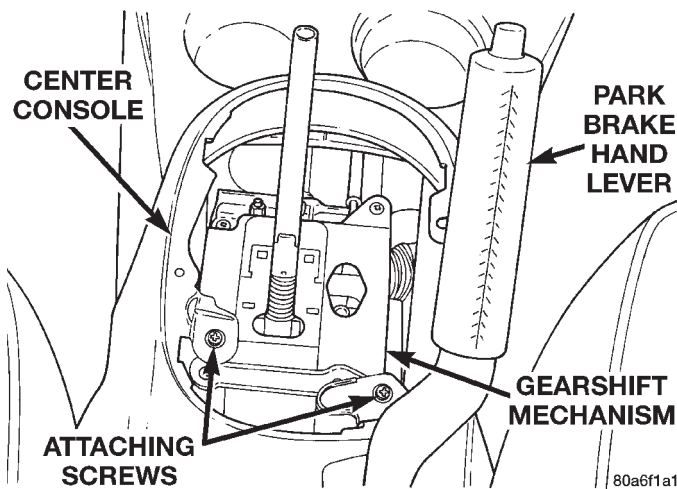
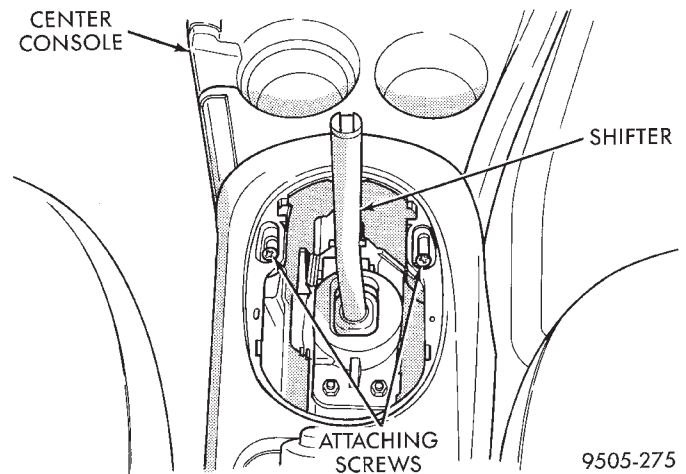
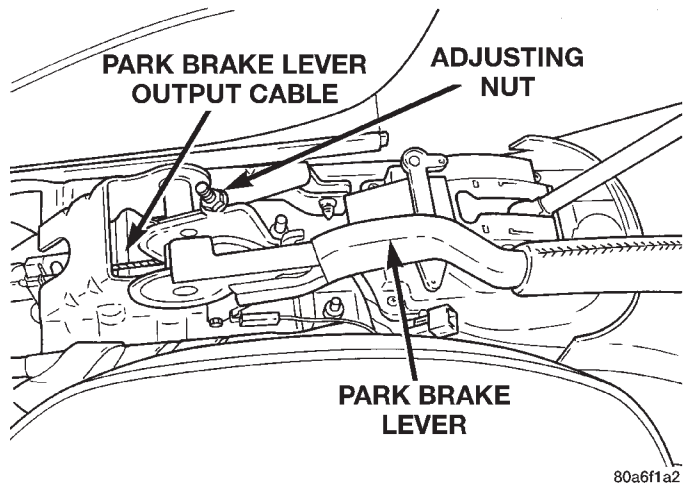

Fig. 198 Center Console Front Attaching Screws (Automatic)
Fig. 199 Center Console Front Attaching Screws (Manual)
Fig. 200 Park Brake Lever Output Cable Adjustment Nut
(4) Remove the 2 screws attaching the front of the center console to the gear selector or shifter (Fig. 198) or (Fig. 199).
(5) Raise the park brake hand lever to approximately the half way point of its travel. This will provide the required clearance to remove center console.
(6) Remove center console/arm rest from vehicle.
(7) Lower park brake lever handle.
(8) Loosen adjusting nut (Fig. 200) on park brake cable output cable. This will take tension off output cable, allowing it to be easily removed from tension equalizer.
(14) Check the rear wheels of the vehicle; they should rotate freely without dragging.
(15) After the park brake cable tension has been properly adjusted, check for free play in park brake lever. Park brake hand lever should feel firm at all clicks, with a maximum of 21 clicks of lever travel possible.
(16) Install the 2 screws attaching the front of the center console (Fig. 198) or (Fig. 199).